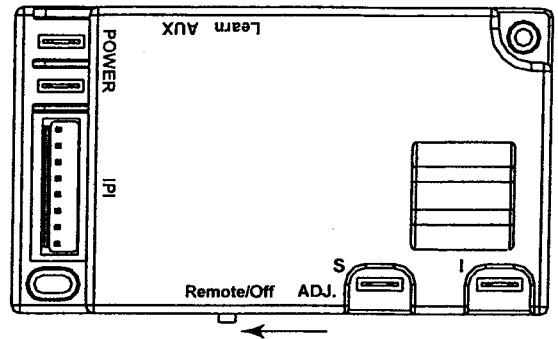

Fig. 7 Control module in REMOTE position.
- Step 1:** Ensure the control module REMOTE/OFF switch in the **REMOTE** position. See fig. 7.